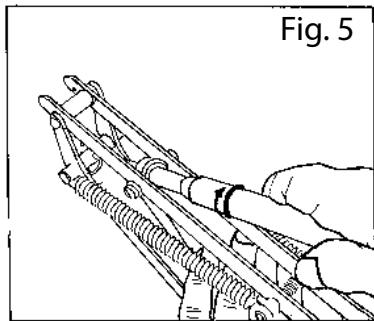

Fig. 5
6. Open the window just enough to allow the thread on the cylinder to catch the thread inside the cylinder housing (part no 3). Now wind the cylinder on until equally much of the cylinders thread is visible on either side of the cylinder housing - see Fig.5
14. Open the lid just enough to allow the thread on the cylinder to catch the thread inside the cylinder housing (part no 3). Now wind the cylinder on until equally much of the cylinder's thread is visible on either side of the cylinder housing – see Fig.5.